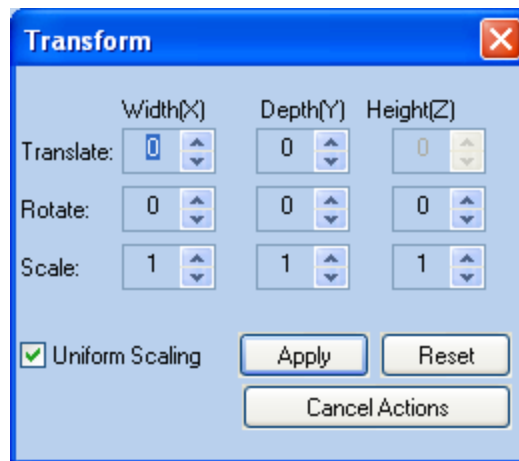

Figure 5-44 Transform dialog box
2. Display the *Transform* dialog box (see Figure 5-44 on page 5-36).